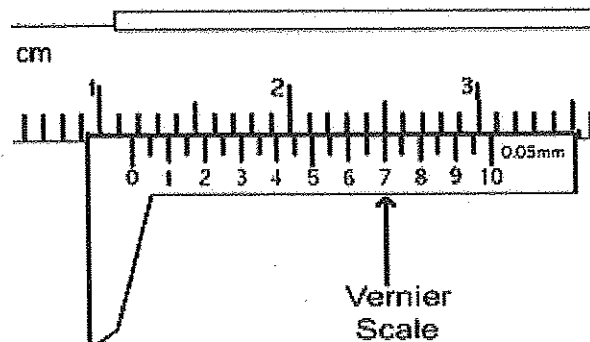

Figure 1b(i) / Rajah 1b(i)
- (b) i. State the reading of vernier caliper at **Figure 1b (i)**